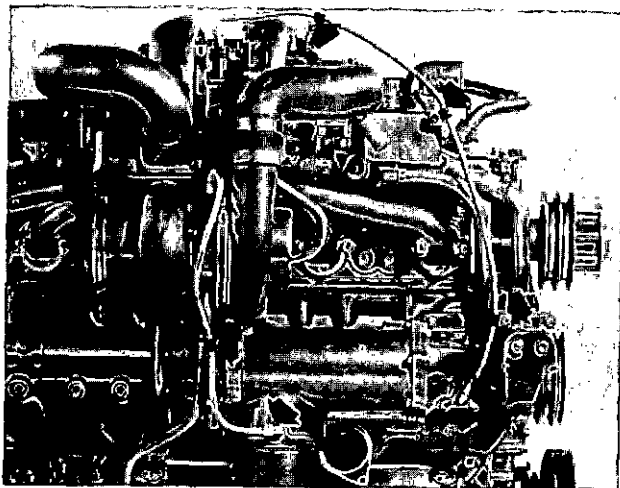

Fig. 14-85. Location Of Hose Clamps And Oil Connections.
8. Install the clamps to hold the oil hoses as shown in Fig. 14-85. Install the hoses onto the connections in the oil cooler and filter head as shown in Fig. 14-85. Tighten the hose nuts to 5 to 10 ft.-lbs. [6.89 to 13.5 N•m] torque.